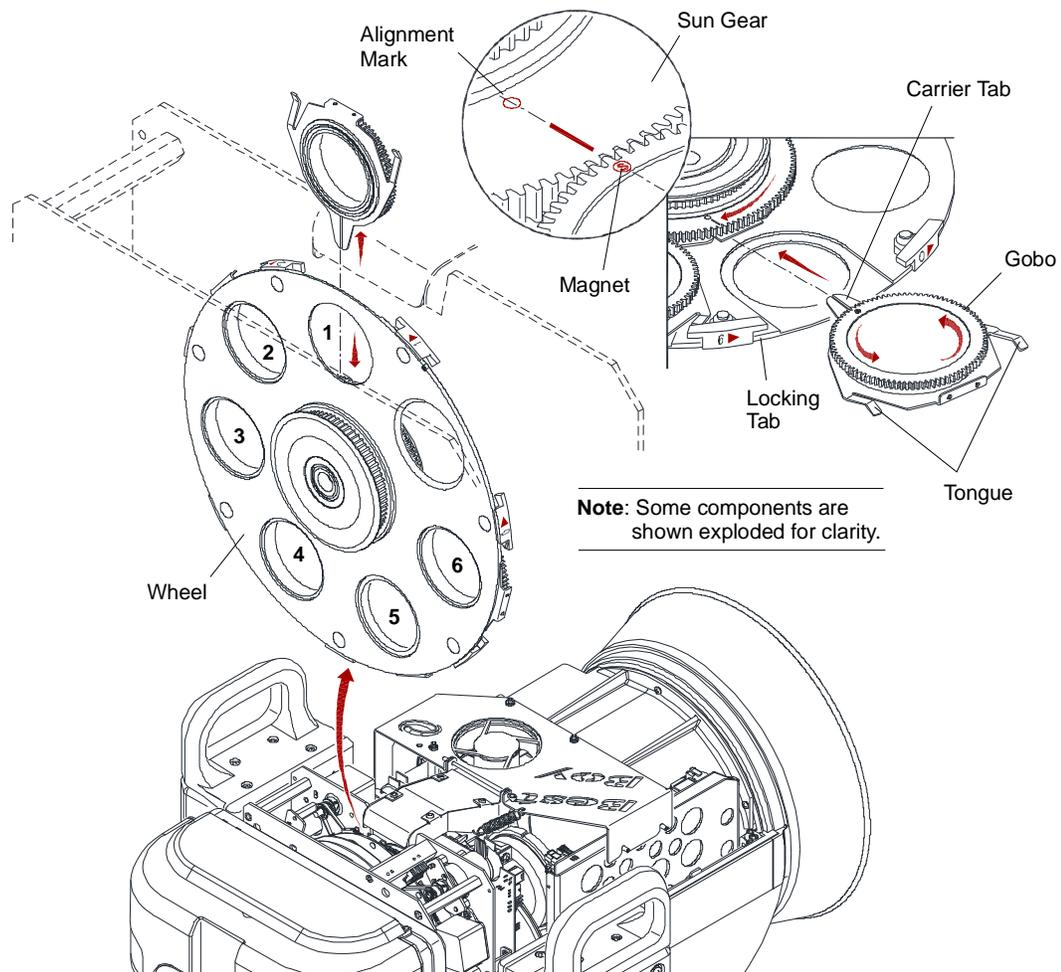

Figure 4-10: Replacing a Gobo (Wheel 2)
Step 3. Using fingers, grasp frame of each gobo and pull out of wheel (**Figure 4-10**). Remove ALL gobos.
- Align gobo's magnet with alignment mark on sun gear as shown in **Figure 4-10**.